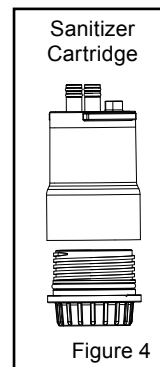

Figure 4
3. Pour two tablespoons of liquid unscented chlorine bleach into the sanitizer cartridge and place in port 1. (Figure 4 and 5)